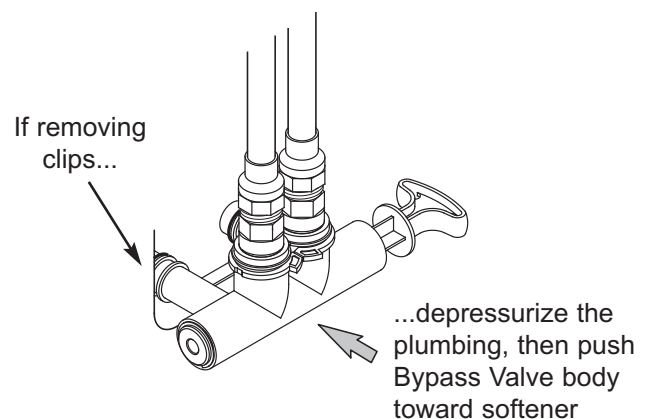

FIG. 14
- g. Check for leaks around clips at softener's inlet and outlet. If a leak occurs at a clip, depressurize the plumbing (turn off the water supply and open faucets) before removing clip. When removing clips at the softener's inlet or outlet, push the single bypass valve body toward the softener (See Figure 14). Improper removal may damage clips. Do not reinstall damaged clips.